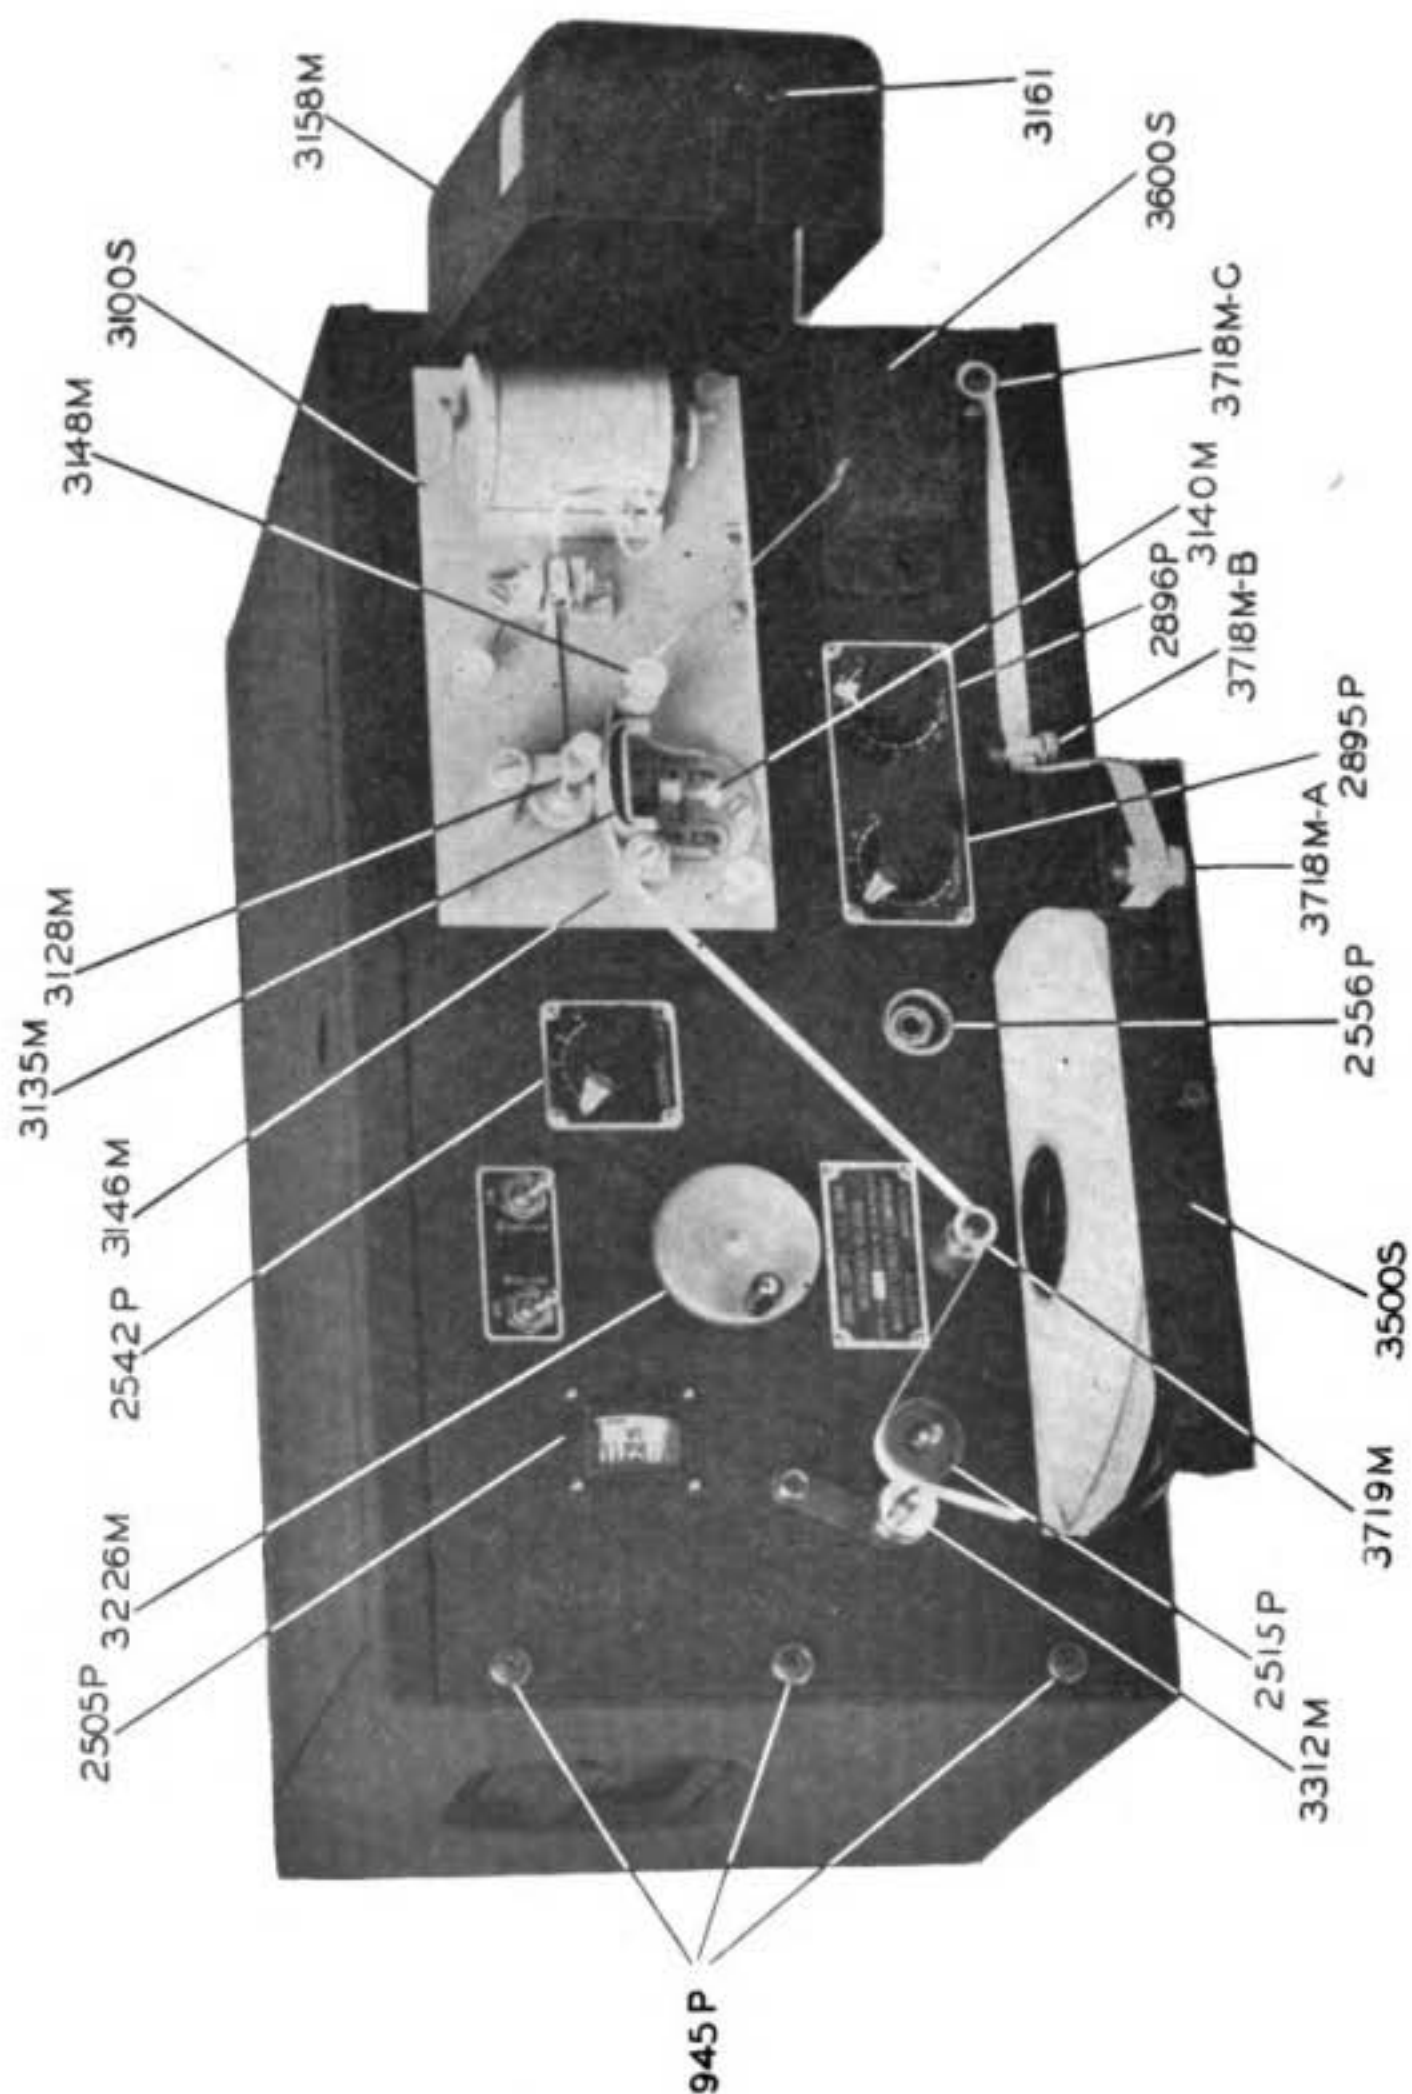

Figure 4—Recorder BC-1016, Front View—Cover of Inker Assembly Open
8. REMOVE AND REPLACE SEVERAL TIMES THE HINGED COVER [(3158M), FIG. 4] PROTECTING THE PEN MECHANISM UNTIL YOU ARE COMPLETELY FAMILIAR WITH HOW THIS IS DONE. THE RECORDER CAN BE OPERATED WITH THIS COVER ON OR OFF. COVER HINGE IS OF SPLIT TYPE. AFTER RELEASING CATCH (3161) AND OPENING COVER, PUSH UP TO REMOVE. THE CATCH TO HOLD COVER FIRMLY IS LOCATED AS SHOWN IN FIG. 4.
(2) *Rack Mounting.*—If recorder is to be mounted on a standard 19-inch (relay) rack, take the unit from the cabinet by removing the six screws (945P, FIG. 4) on the ends of the panel and the three screws holding the rear of the chassis to the bottom of the cabinet. The panel and chassis are rigidly fastened so that the recorder can be mounted by the same panel screws to the relay rack. When so mounted, hook up line cord and input leads as described in PAR. 7d (1).
e. *Tape Threading.*—(See FIGS. 4, 5, and 6.) Place a roll of tape in the tape drawer (3500S) so that as tape feeds the roll turns clockwise (to right). Pass the free end of the tape through the slit in the front panel of the drawer; close the drawer. Pass the tape to the right over roller [3718M (A)] and inside guide roller [3718M (B)] around roller [3718M (C)] and through the dust collector (3600S). Swing pen adjusting arm (3128M) out of the way to the left. Pass tape over adjustable roller (3148M) over tape anvil (3135M) over roller (3146M) and under roller (3719M). Move the pressure roller (3312M) upward and out of engagement with the tape drive roll (2515P) and pass the tape over the drive roll. Re-engage pressure roller.
8. OPERATION.—(See FIG. 4 for control markings.)
f. Tape Speed.—The tape speed control knob (3226M), located in the left center of the front panel, controls the speed of the tape travel through the recorder. The illuminated indicator dial (2505P) is calibrated to show the speed of the tape through the recorder in feet per minute. (See FIG. 4.)
9. MONITORING.—The input signal may be monitored by plugging a pair of standard high impedance headphones such as Headset P-18 or P-20 into the monitor jack (2556P, FIG. 4) provided for this purpose on the front panel. This jack is connected across the input terminals of the recorder.